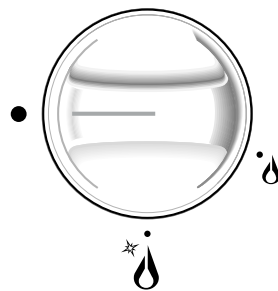

Fig. 2.1b
The electric ignition is incorporated in the knobs ( symbol beside flame  - max. heat/max. gas flow fig. 2.1b).
- 1 - Turn the knob fig. 2.1b in anti-clockwise direction up to the maximum aperture (symbol ) , push in and hold the knob; this will light the gas. In case of black-out, bring a lighted match close to the burner.